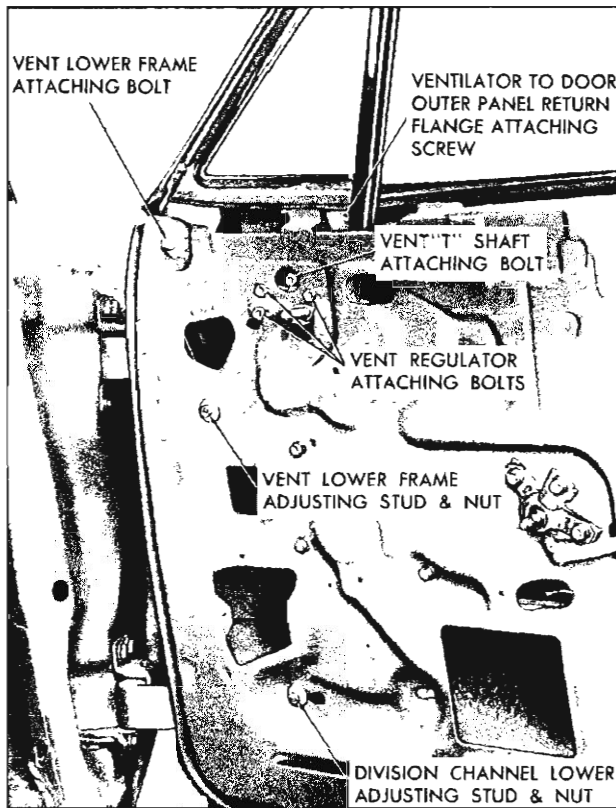

Fig. 29—Front Door Ventilator Assembly Adjustments
3. Remove ventilator tee shaft attaching bolt and ventilator regulator attaching bolts (fig. 29).
1. Excessive "play" (flutter) of ventilator at pivot shaft, when ventilator is in an open position, can be corrected by tightening ventilator "T" shaft to regulator attaching bolt (fig. 29).
2. Lower door window. Remove ventilator to door outer panel return flange attaching screw (fig. 29).
4. Remove ventilator division channel lower adjusting stud and nut (fig. 29).
6. Remove ventilator lower frame attaching bolt and ventilator lower frame adjusting stud nut (fig. 29).
3. To adjust lower portion of ventilator division channel for alignment with window assembly, lower door window and loosen ventilator division channel adjusting stud nut. Turn adjusting stud in or out or position lower end of channel fore or aft, as required; then, retighten adjusting stud nut (fig. 29).
2. Remove ventilator division channel lower adjusting stud and nut (fig. 29).